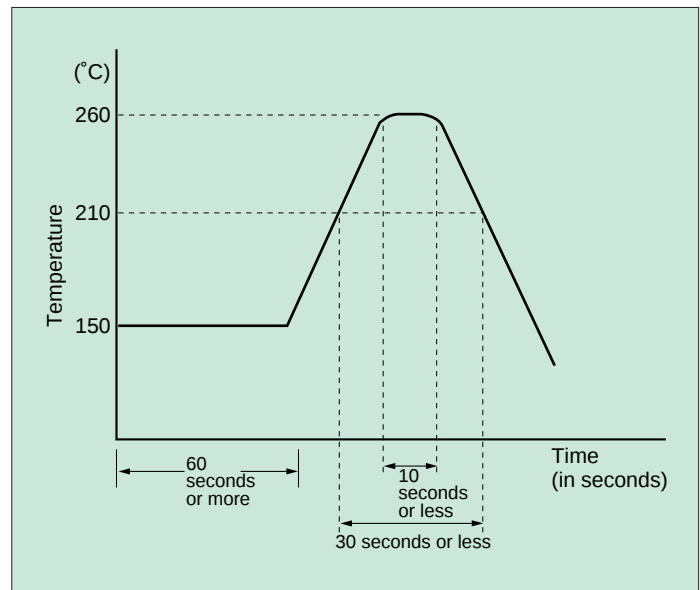

Figure 1
- (1) Lead temperature must be not more than 260°C, and flow time must be not more than 10 seconds.
- (2) Preheat leads at 150°C $\pm$ 10°C, for 60⁺³⁰ seconds.
- (3) Keep the package resin surface temperature suppressed to 210°C or lower.
- (4) The recommended thermal profile is as shown on Figure 1.
- (5) Notes on heating